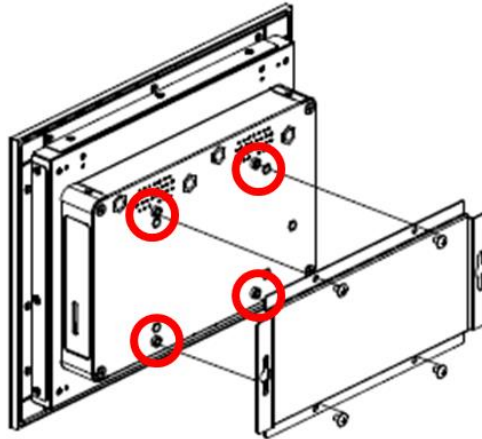

Figure 2-8: Attaching the wall mount bracket
- Step 2** Attach the wall mount bracket to the back of the panel PC by aligning the screwing openings on the top and bottom edges of the bracket with the screwing holes on the back chassis. Then screw the bracket firmly to the back of the panel PC, as illustrated in Figure 2-8.